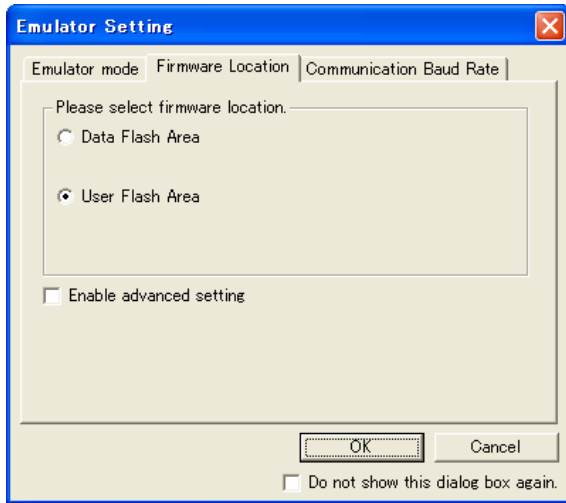
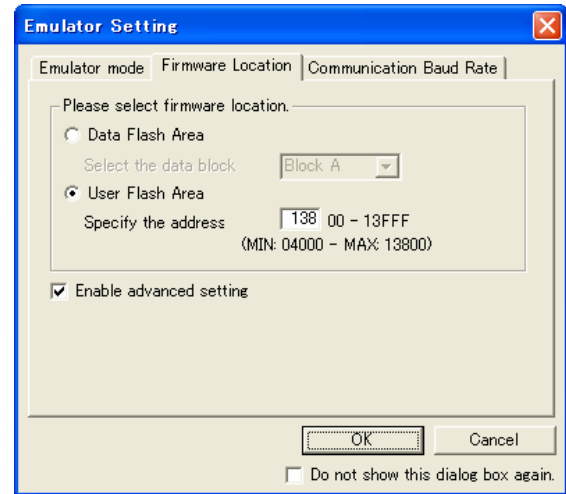

Figure 6.1 [Firmware Location] tab of [Emulator Setting] Dialog Box (1)
Figure 6.2 [Firmware Location] tab of [Emulator Setting] Dialog Box (2)
- When using the MCU types R5F21246, R5F21248, R5F21256 or R5F21258, the [Emulator Setting] dialog box shown in Figure 6.1 is displayed. Specify the area which will not be used by the user system. If the [Enable advanced setting] check box is checked, the area used by the emulator can be specified with the address (Figure 6.2).